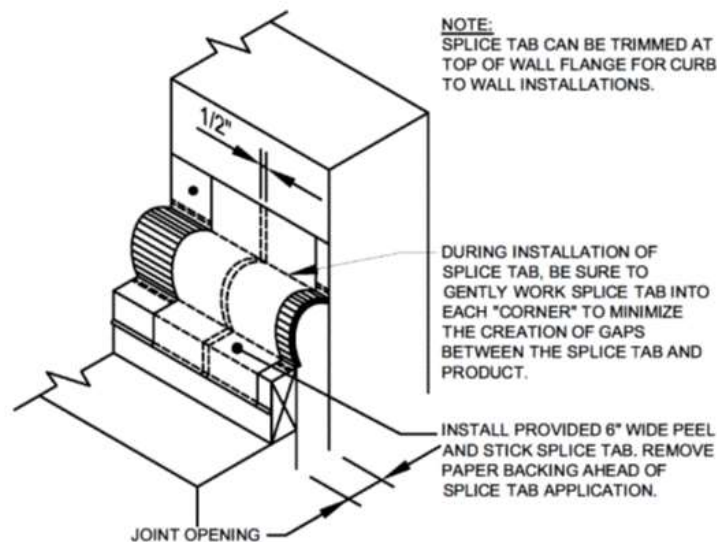

Figure 2
2. Install provided 6" wide peel and stick splice tab. Remove paper backing ahead of splice tab application. After installation of splice tab be sure to work splice tab into each bead of caulk. **See Figure 2**